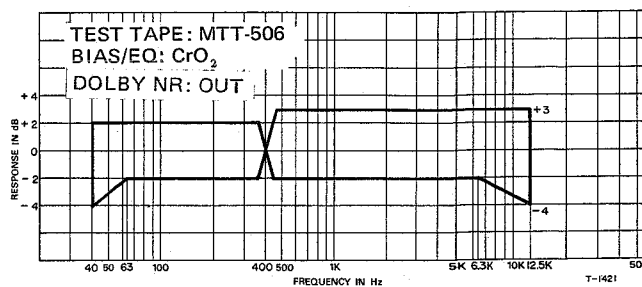

Fig. 6-13 Overall Frequency Response (CrO2, Forward)
3. Apply and record a test signal as required for frequencies in the Fig. 6-13 at -42 dB (6.15 mV).